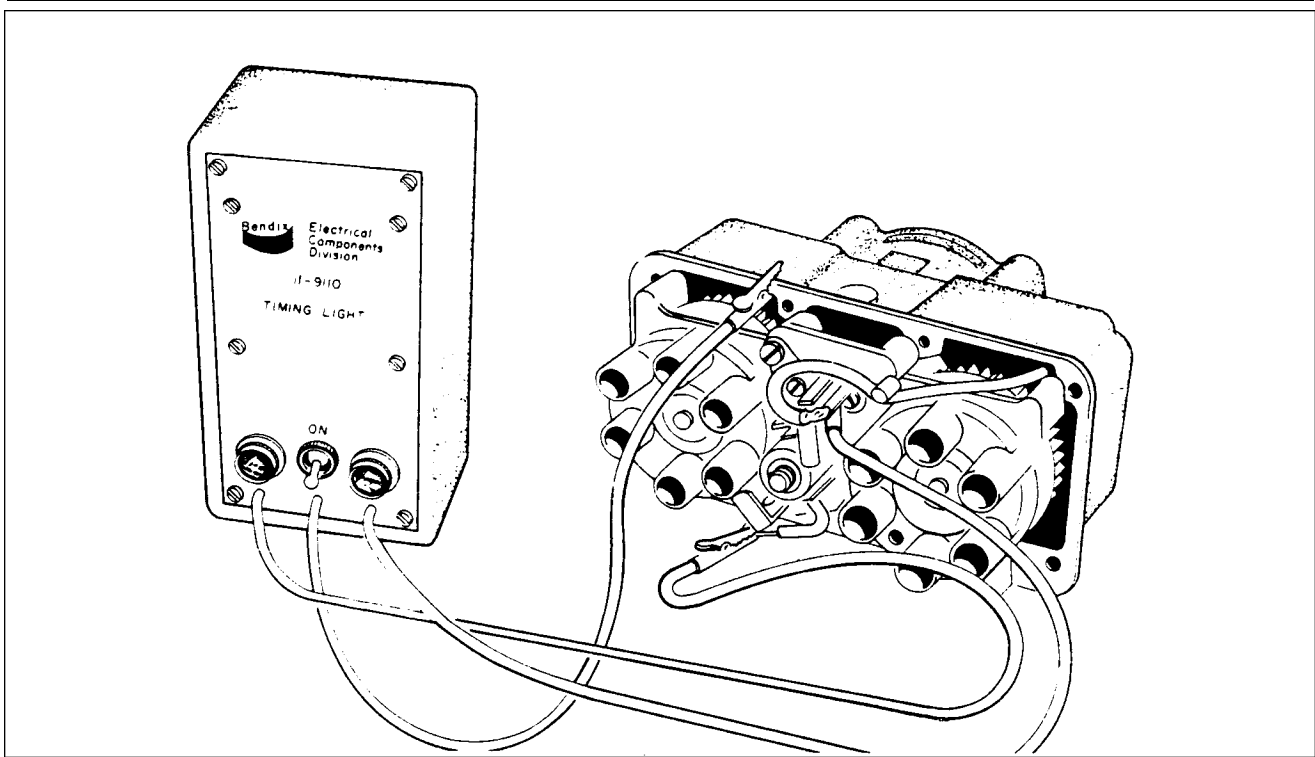

Figure 74-8. Timing Light Connected to Magneto and Breakers
11. Connect red timing light lead to left breaker terminal and green lead to right main breaker terminal. (Refer to figure 74-8.)